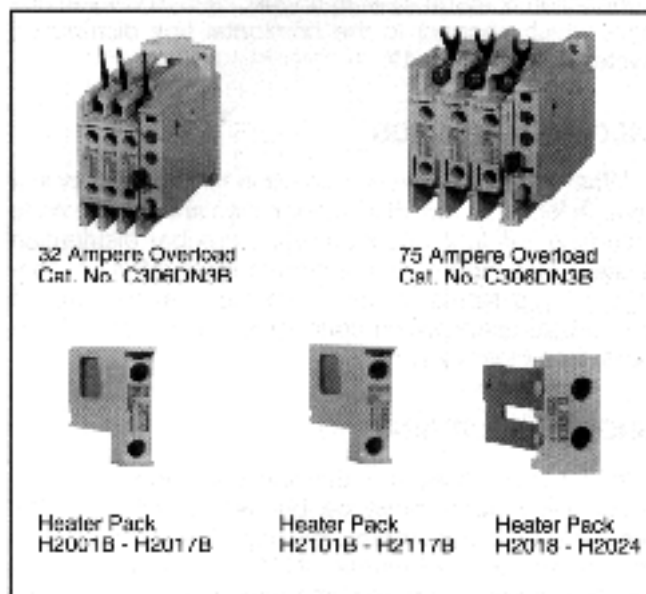

Fig.24 C306 Thermal Overload Relay and Heater Pack.
C306 THERMAL OVERLOAD RELAYS (Fig. 24)
- Class 10 or 20 heater packs. (Fig. 24) Use Class 10 heaters with fusible or thermal magnetic breaker disconnects only.